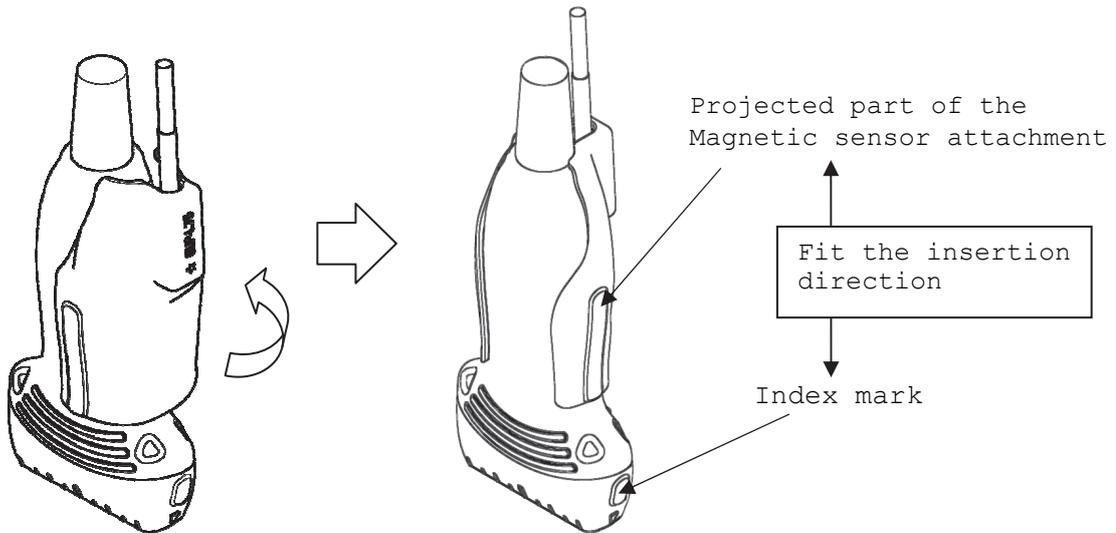

Fig. 12 How to attach the Magnetic sensor attachment
- b) Place the magnetic sensor attachment on the probe as shown in Fig. 12. Fit the projected part of the magnetic sensor attachment in the index mark of the probe.